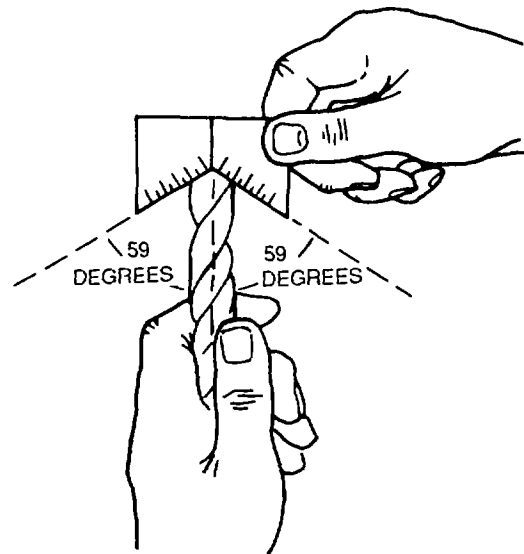

Figure 4-89. Using Drill Grinding Gauge
(3) *Testing angles.* Test the results of grinding with a drill grinding gauge to determine that the cutting edges are the same length and the angles are correct. This is shown in figure 4-89. To determine heel angle, proceed as follows: